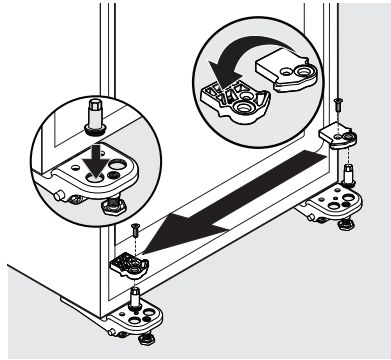

Figure 5
10. Reinstall the hinge pin into the outer hole and tighten with an adjustable wrench. Flip door stop over 180° and reinstall onto the opposite hinge. Reinstall the screw (see Figure 5).